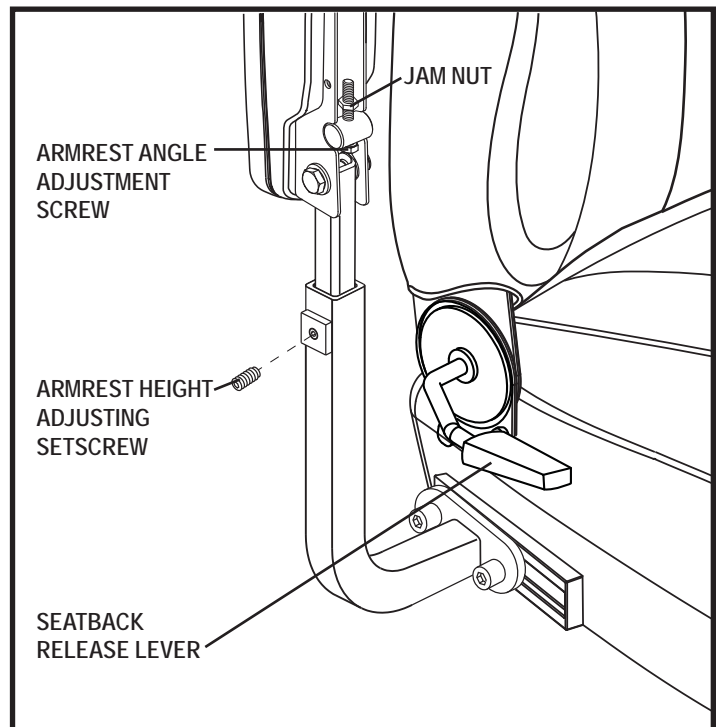

Figure 9. Armrest and Seatback Adjustments
If your power chair is equipped with a manual recline seatback, you can adjust the seatback angle using the seatback release lever. See figure 9.
1. Lift the armrest straight up so that it is perpendicular to the floor. **See figure 9.**
1. Loosen the setscrews on the armrest. **See figure 9.**